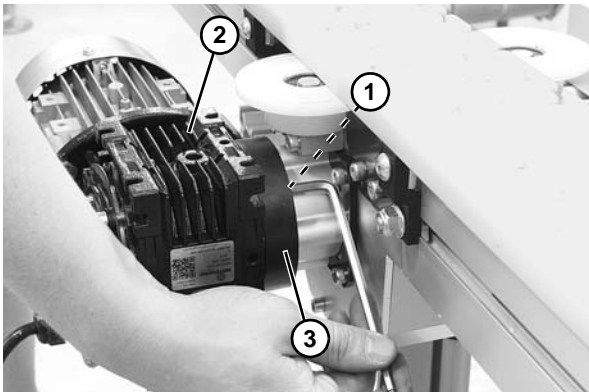

Figure 138
1. Remove four socket head screws (Figure 138, item 1). Remove drive package (Figure 138, item 2) from drive motor mounting bracket (Figure 138, item 3).